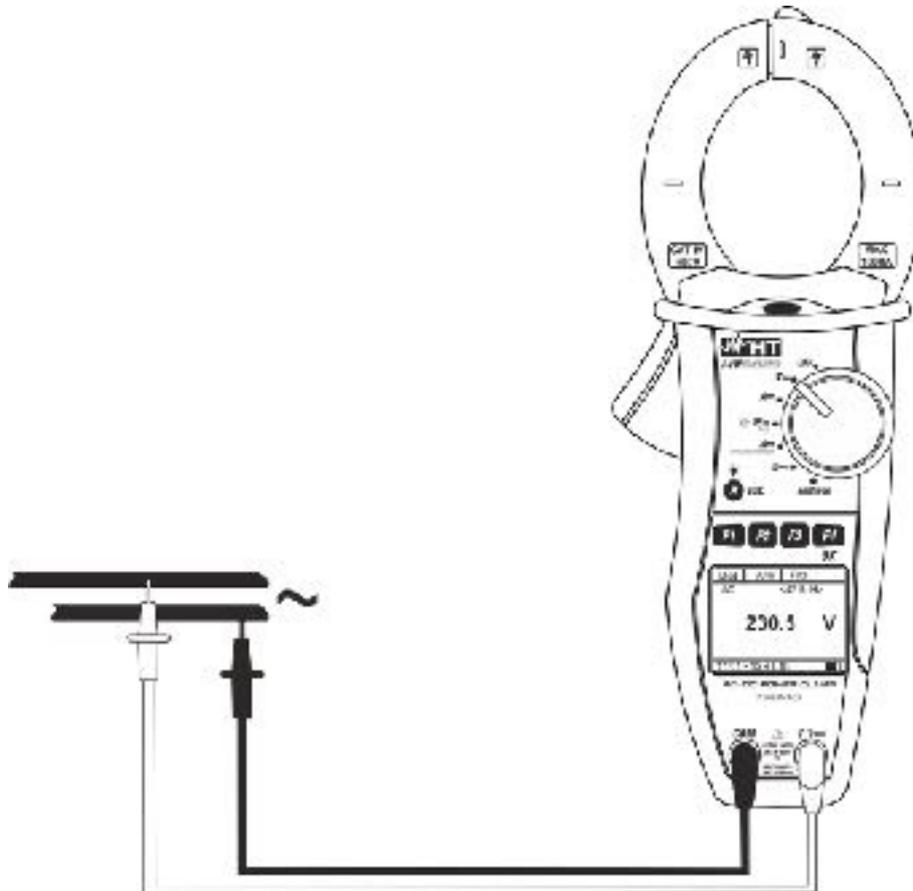

Fig. 6: AC and AC + DC voltage measurement
4. Connect red cable to input lead **VΩ \cdot)** and black cable to input lead **COM** then position the leads to the desired points of the circuit under test (see Fig. 6)